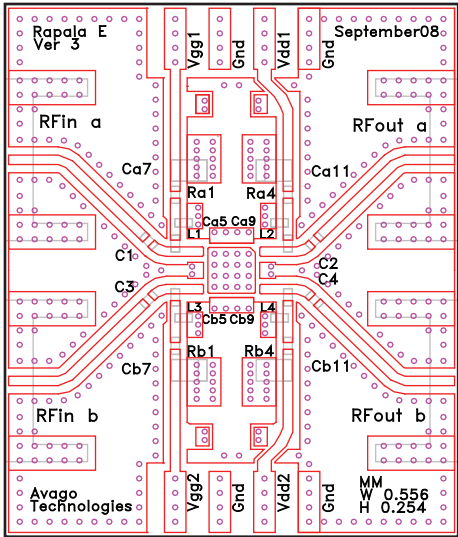

Figure 5. Demo Board Layout Diagram
RF performance at T_A = 25°C, V_{dd} 5V, I_{dd} = 50mA, 850MHz and 900MHz given for each RF channel, measured on demo board in Figure 5 with component list in Table1 for 850 MHz matching.
7. Measurements at 850 MHz and 900 MHz are obtained using demo board described in Figure 5.
RF performance at $T_A = 25^\circ\text{C}$, $V_{dd} = 5\text{V}$, $I_{dd} = 50\text{mA}$, given for each RF channel, measured on demo board in Figure 5 with component list in Table 1 for 850 MHz matching. IIP3 is measured with input power of -15dBm per tone.
RF performance at $T_A = 25^\circ\text{C}$, $V_{dd} = 5\text{V}$, $I_{dd} = 50\text{mA}$, given for each RF channel, measured on demo board in Figure 5 with component list in Table 1 for 850 MHz matching.